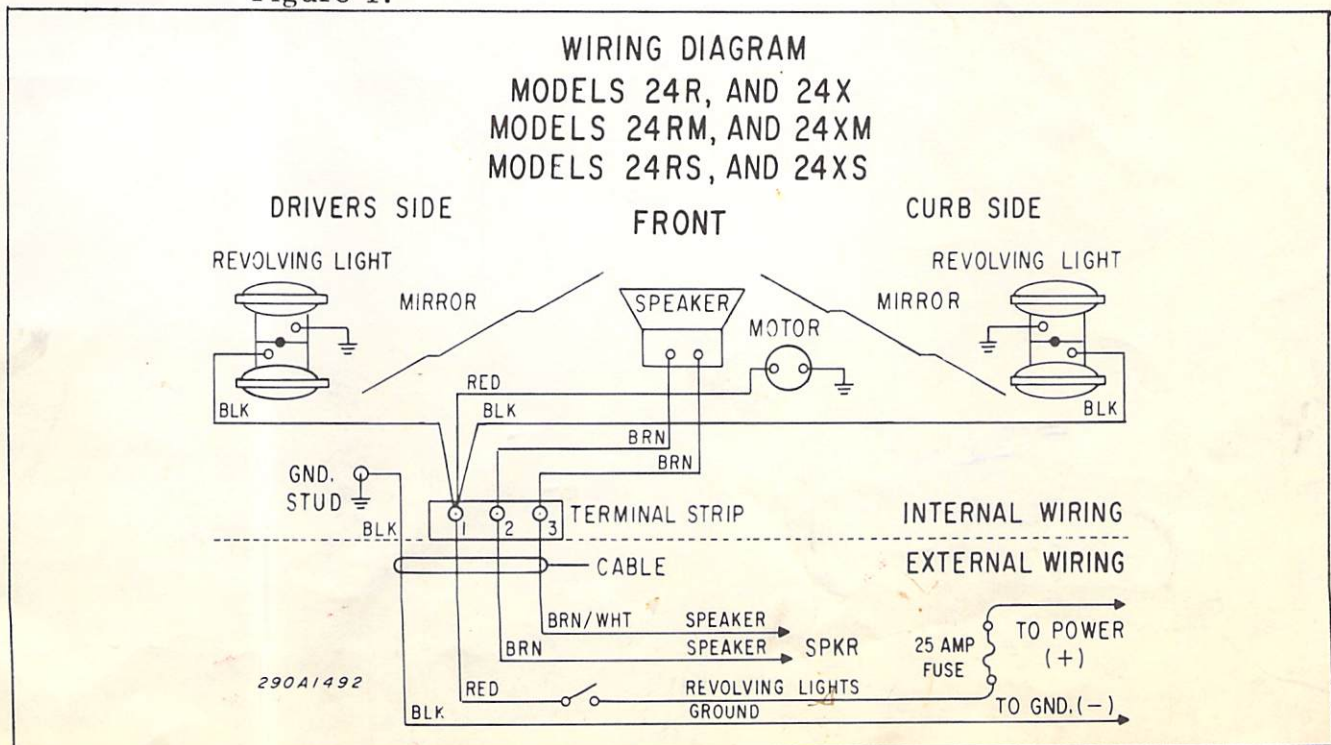

Figure 2.
4. Connect one switch terminal to the AeroDyNIC Light Assembly, as shown in figure 2. Connect all other conduct-ors in the interconnecting cable, as in-dicated in figure 2.